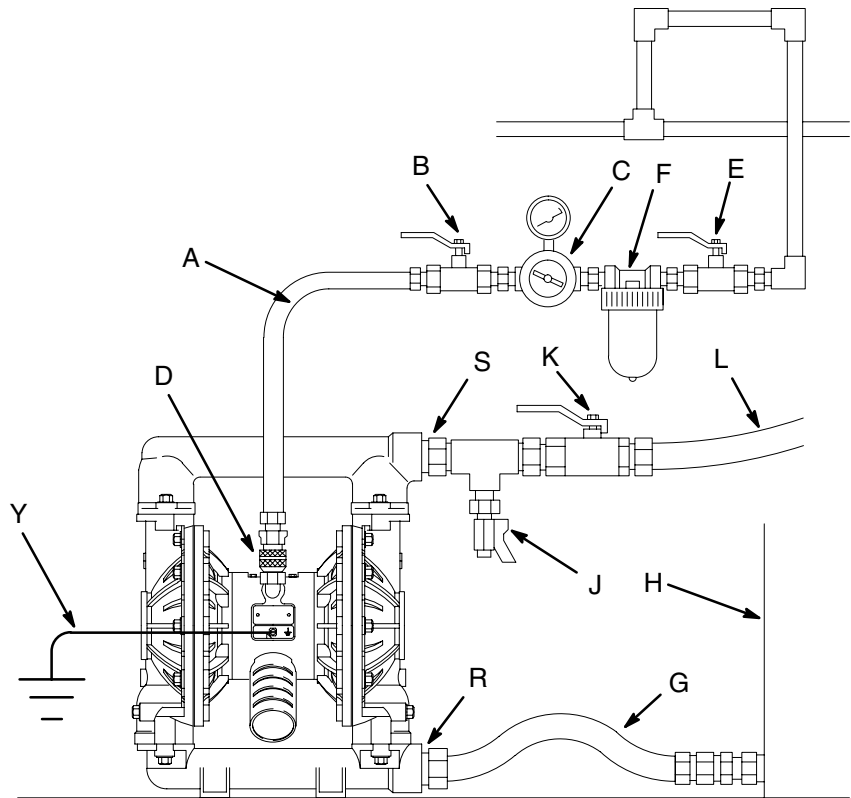
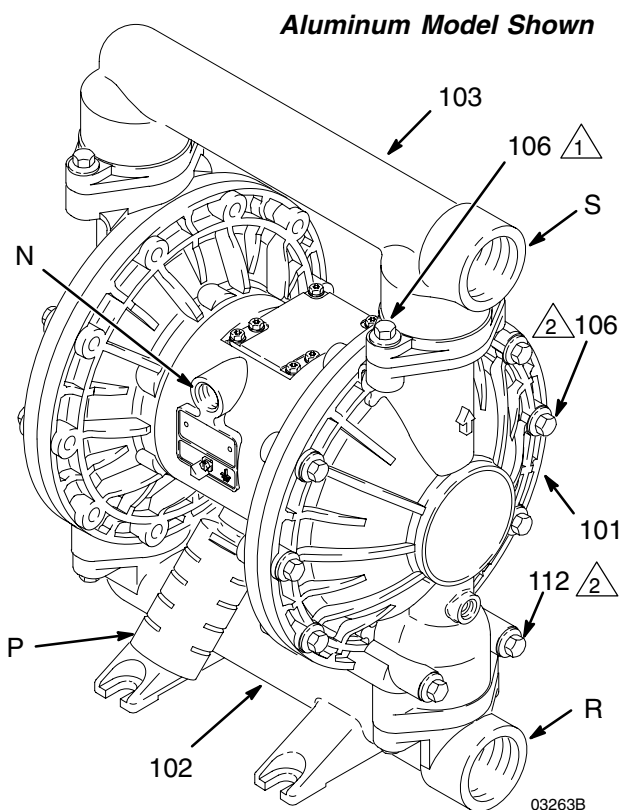

Fig. 2
Fig. 3
1. The Typical Installation shown in Fig. 2 is only a guide for selecting and installing system components. Contact your VERDER Customer Service for assistance in planning a system to suit your needs.
4. Lift the pump by grasping the outlet manifold (1) securely. See Fig. 3 on page 7.
A bleed-type master air valve (B) is required in your system to relieve air trapped between this valve and the pump. Trapped air can cause the pump to cycle unexpectedly, which could result in serious injury, including splashing in the eyes or on the skin, injury from moving parts, or contamination from hazardous fluids. See Fig. 2.
1. Install the air line accessories as shown in Fig. 2. Mount these accessories on the wall or on a bracket. Be sure the air line supplying the accessories is grounded.
- a. Install an air regulator (C) and gauge to control the fluid pressure. The fluid outlet pressure will be the same as the setting of the air regulator.
- b. Locate one bleed-type master air valve (B) close to the pump and use it to relieve trapped air. See the **Warning** above. Locate the other master air valve (E) upstream from all air line accessories and use it to isolate them during cleaning and repair.
- c. The air line filter (F) removes harmful dirt and moisture from the compressed air supply.
2. Install a grounded, flexible air hose (A) between the accessories and the 1/2 npt(f) pump air inlet (N). See Fig. 3. Use a minimum 13 mm ID air hose. Screw an air line quick disconnect coupler (D) onto the end of the air hose (A), and screw the mating fitting into the pump air inlet snugly. Do not connect the coupler (D) to the fitting until you are ready to operate the pump.
A fluid drain valve (J) is required to relieve pressure in the hose if it is plugged. The drain valve reduces the risk of serious injury, including splashing in the eyes or on the skin, or contamination from hazardous fluids when relieving pressure. Install the valve close to the pump fluid outlet. See Fig. 2.
1. **Use grounded fluid hoses (L).** The pump fluid outlet (S) is 1–1/2 in. bspt. Screw the fluid fitting into the pump outlet securely.
2. Install a fluid drain valve (J) near the fluid outlet. See the **Warning** above.
3. Install a shutoff valve (K) in the fluid outlet line.
The pump is shipped with the fluid inlet (R) and outlet (S) ports facing the same direction. See Fig. 3. To change the orientation of the inlet and/or outlet port:
1. Remove the screws (106) holding the inlet (102) and/or outlet (103) manifold to the covers (101).
4. Place the end of the fluid hose (L) into an appropriate container.
5. Close the fluid drain valve (J). See Fig. 2.
6. Close the pump air regulator (C). Open all bleed-type master air valves (B, E).
8. Slowly open the air regulator (C) until the pump starts to cycle. Allow the pump to cycle slowly until all air is pushed out of the lines and the pump is primed.